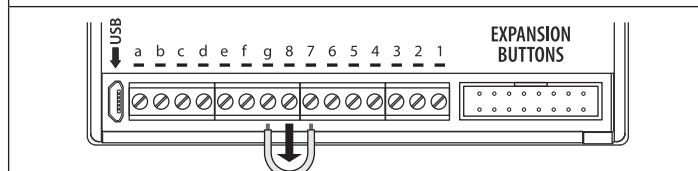

Fig. 58
4. After the 3rd beep remove the short, as shown in **Fig.58**.